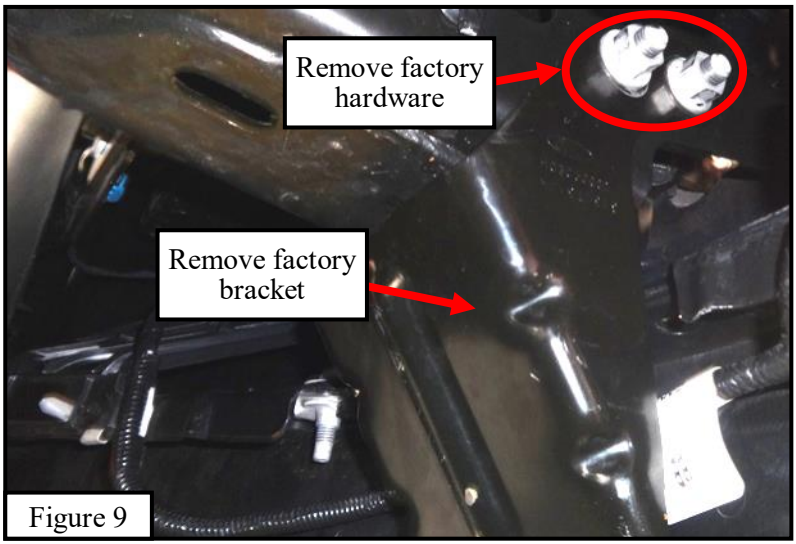

Figure 9
16. On each side of the truck, remove the factory bracket and hardware shown in **Figure 9**.